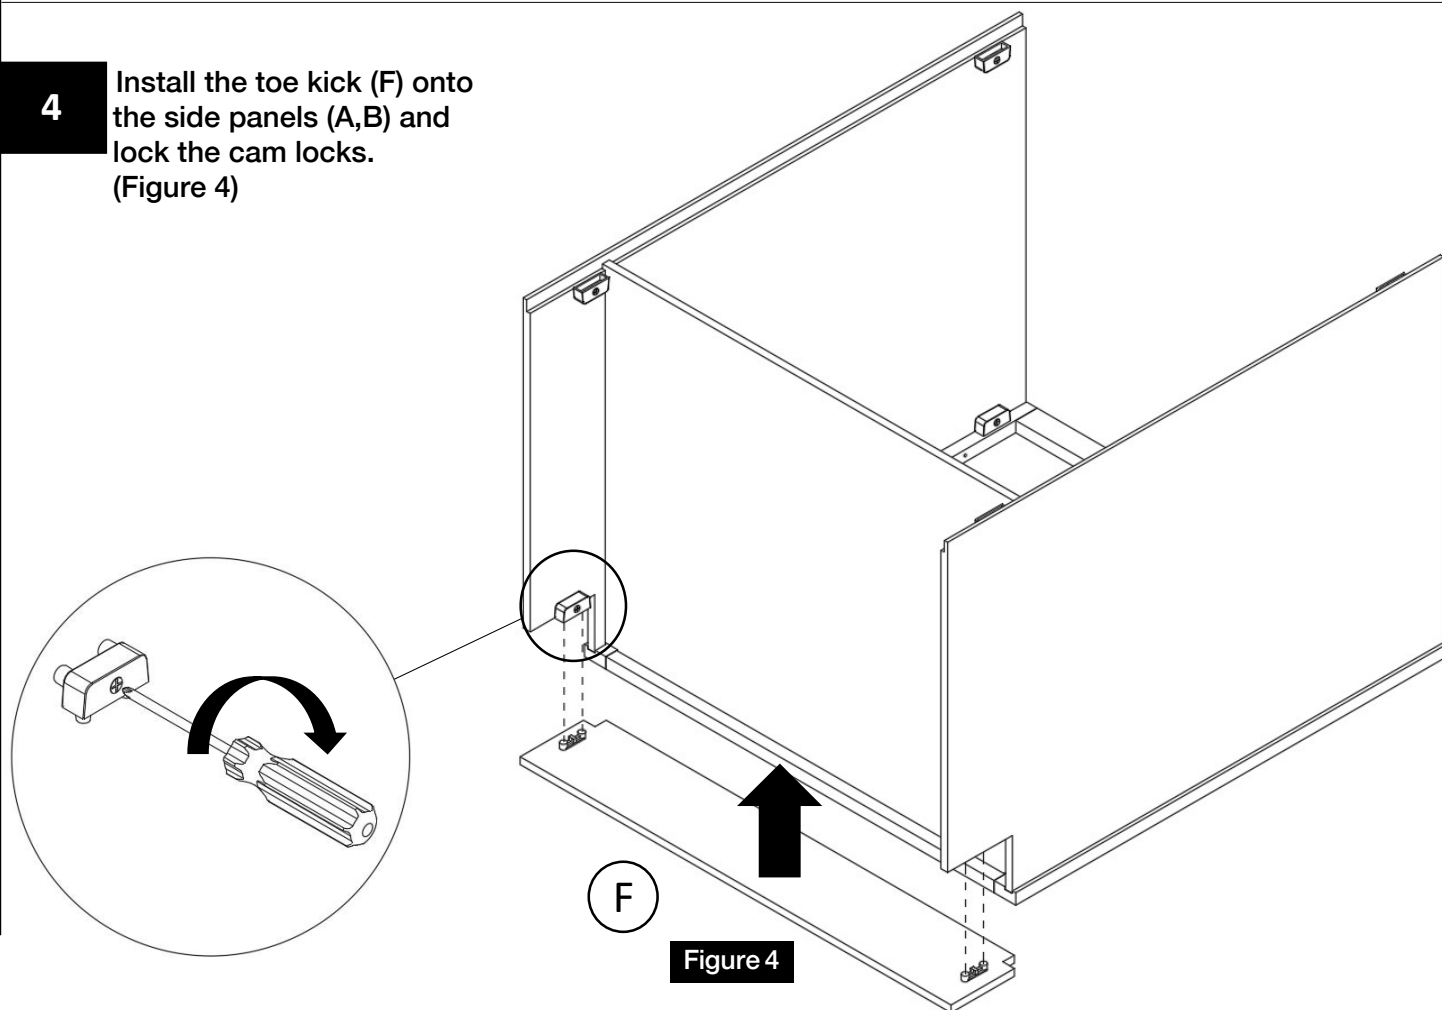

Figure 4
Install the toe kick (F) onto the side panels (A,B) and lock the cam locks. (Figure 4)